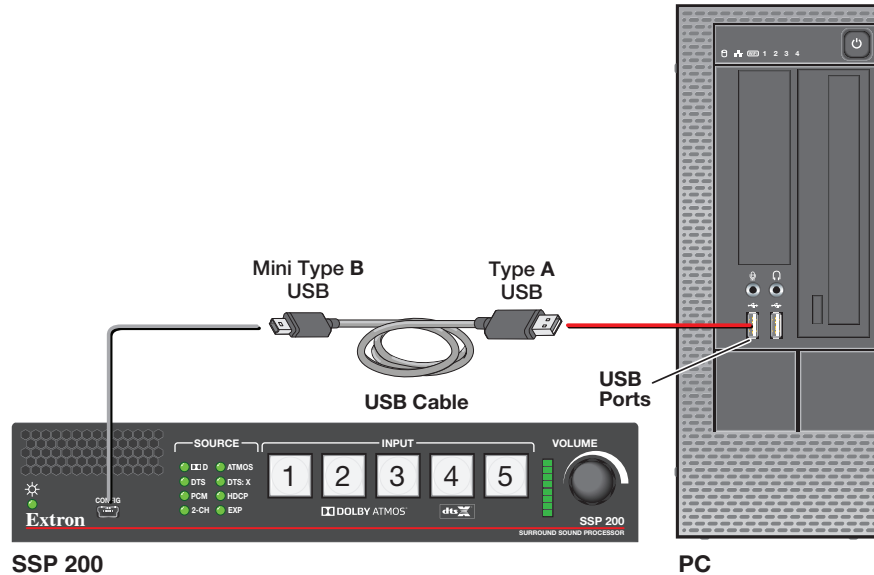

Figure 14. Connecting a PC to the SSP 200 Front Panel USB Port
1. Connect a USB A to mini-B cable between the front panel USB CONFIG port and a USB port on the PC (see figure 14).